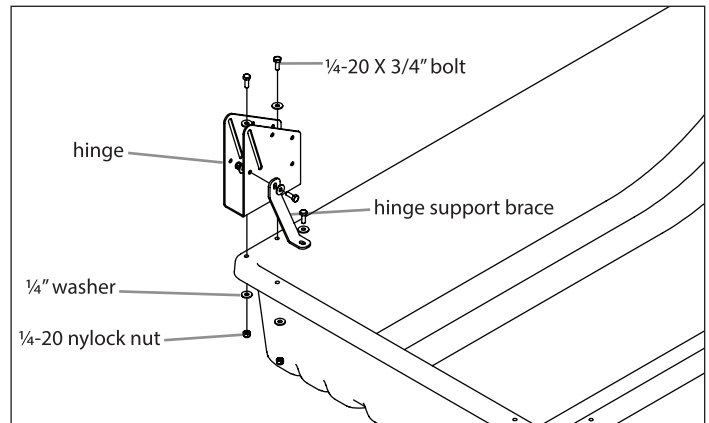

FIGURE 1
1. Attach the Hinge (15062) to the upper lip of the tub using (2) 1/4-20 X 3/4" bolts, (4) 1/4" washers and (2) 1/4-20 nylock nuts. Repeat this step on the opposite side. **SEE FIGURE 1**
2. Attach the (1) hinge support brace (11203) to the hinge (15062) using (2) 1/4-20 x 3/4" bolts, (4) 1/4" washers, and (2) 1/4-20 nylock nuts. Repeat this step on the opposite side. **SEE FIGURE 1**